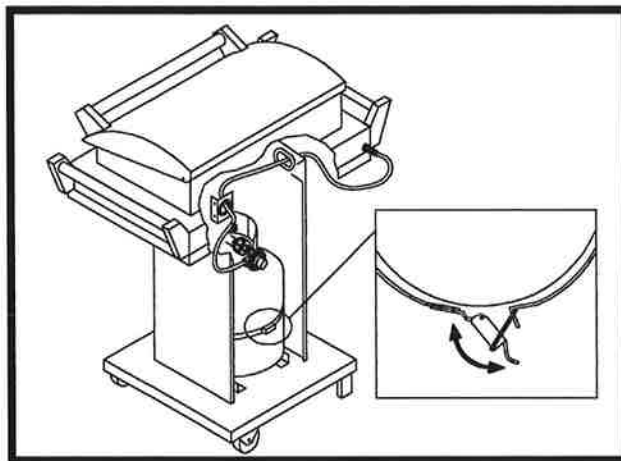

Figure 6 LP Gas Tank Placement For Optional Base
7. Remove the protective cover from the **Grill** connection at the back of the grill. For Portable and Tabletop use, attach the hose end of the regulator to the grill using the Quick Disconnect Instructions found on Page 8. When attaching the grill to the optional Pedestal Base, place the fuel supply hose through the LP Hose Support Bracket on the back of the Pedestal just above the tank taking care to avoid all contact with the drip tray. (See Figure 6) Then place the hose through the hole in the right side of the Pedestal and attach the hose end of the regulator to the appliance connection at the back of the grill using the Quick Disconnect Instructions found on Page 8.